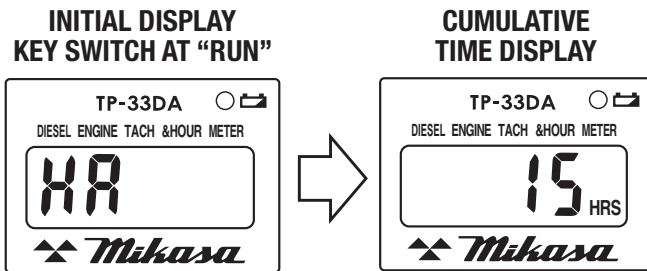

Figure 56. Tachometer/Hour Meter (Cumulative Time)
- After “HA” is initially displayed on the tachometer/hour meter, the meter will change to display **cumulative time** (Figure 56).